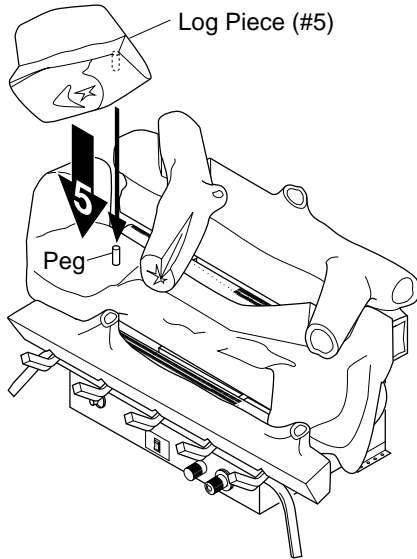

Figure 29 - Installing Log Piece (#5)
5. With knot to right side, place smaller log piece (#5) over the pin on the left side of the middle log. The smaller log will rest on front log against the "knot" on the left (see Figure 29, page 15).